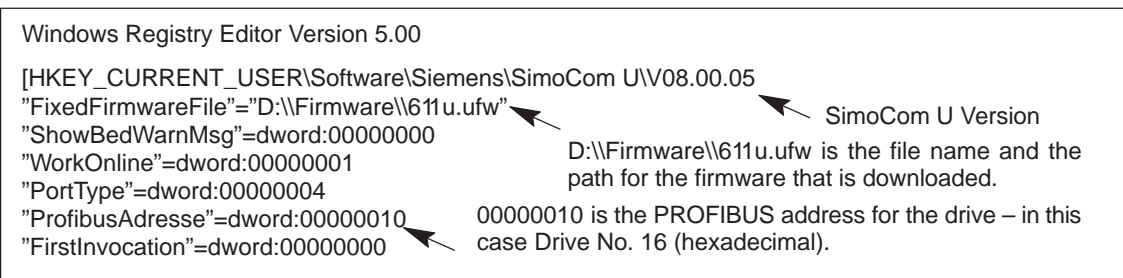

Fig. 4-3 Text example for the ".reg" file when connected via PROFIBUS-DP
1. Edit the .reg file and carry-out the settings (refer to Fig. 4-3).